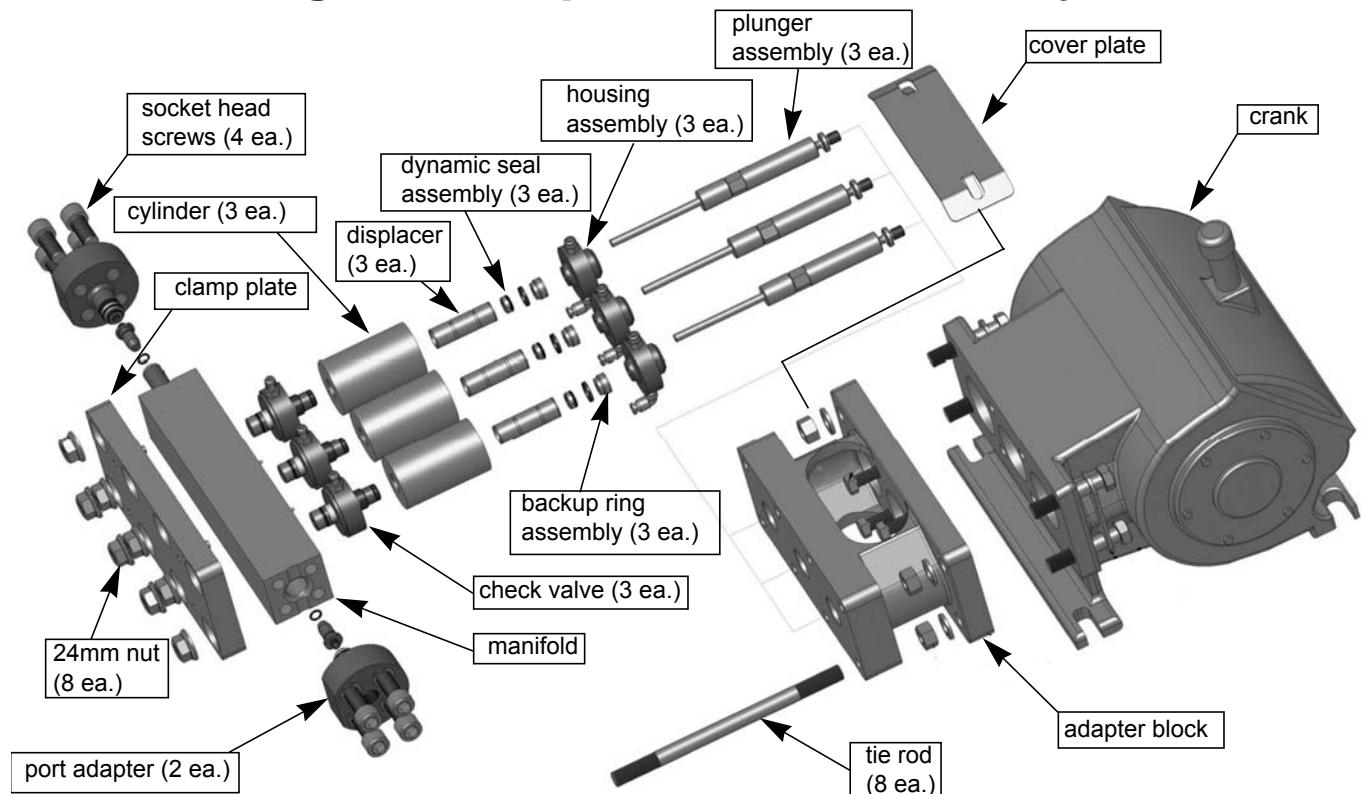

Figure 6-1
3. If the **seal ring** did not remain in the end of the **cylinder** (Figure 6-1), remove it from the **check valve body stem** and discard it.